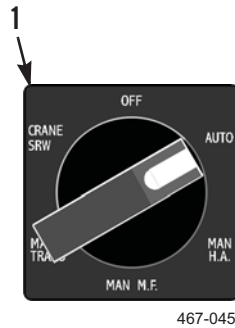

Figure 15. MODE Switch at AUTO.
4. With engine at idling speed, set MODE switch (Figure 15, Item 1) to AUTO (PLS: TM 9-2320-364-14&P, HEMTT: TM 9-2320-326-14&P).